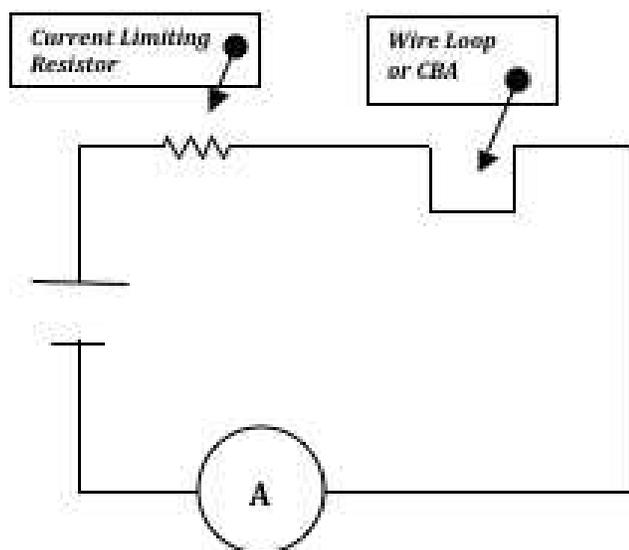

Figure 19.2: Schematic for Current Balance
1. Build the circuit as shown in Fig. 19.2 using the current loop numbered SF 42.
4. Refer to Fig. 19.1 and Fig. 19.2 to verify that you have the circuit built correctly. Get instructor approval of your circuit. Be sure the power supply is turned off before you plug it in.